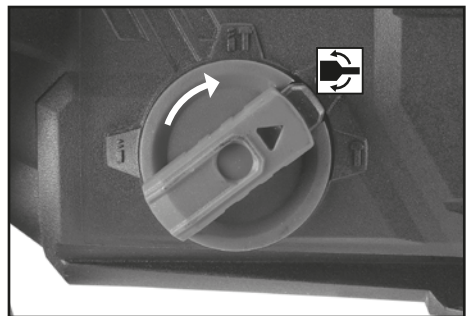

FIG.5
9.4 ROTATIONAL CHISELLING - FIG.5
- Rotate the function selector (2) to the rotational chiselling setting.